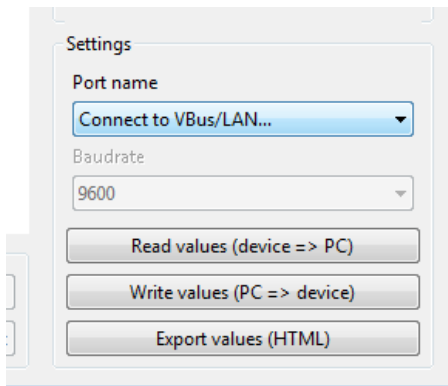

Fig. 5
- ➔ Click on the action you want to perform (Fig. 5)